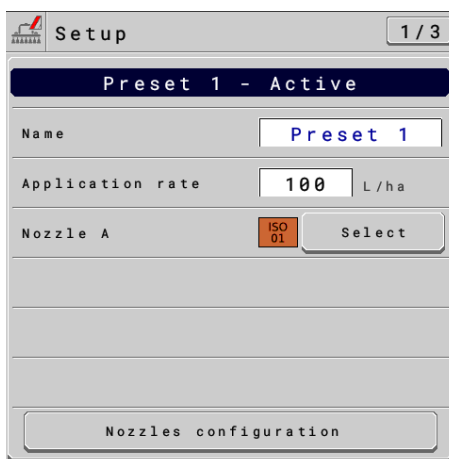

Fig. 71
- VALVES WITH GEARMOTOR (SINGLE BOOM), Fig. 71.